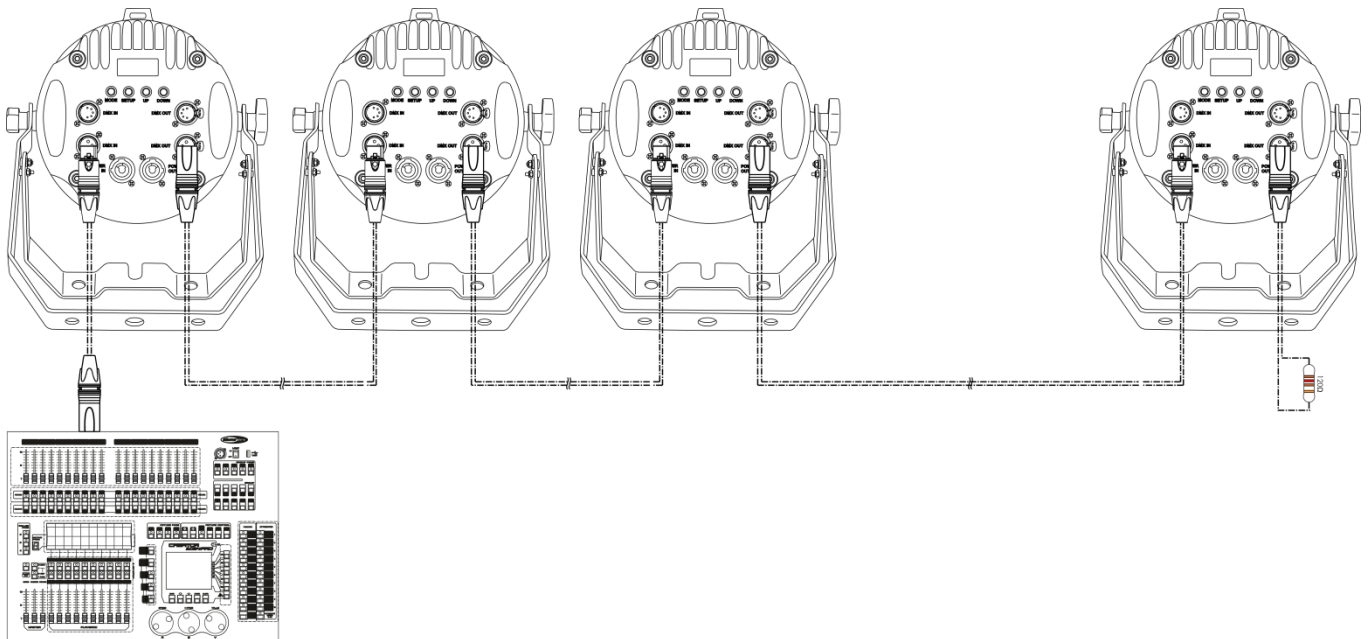

Fig. 04
- 05) Link the units as shown in (fig.04). Connect a DMX signal cable from the first unit's DMX "out" socket to the second unit's "in" socket. Repeat this process to link the second, third, and fourth units.